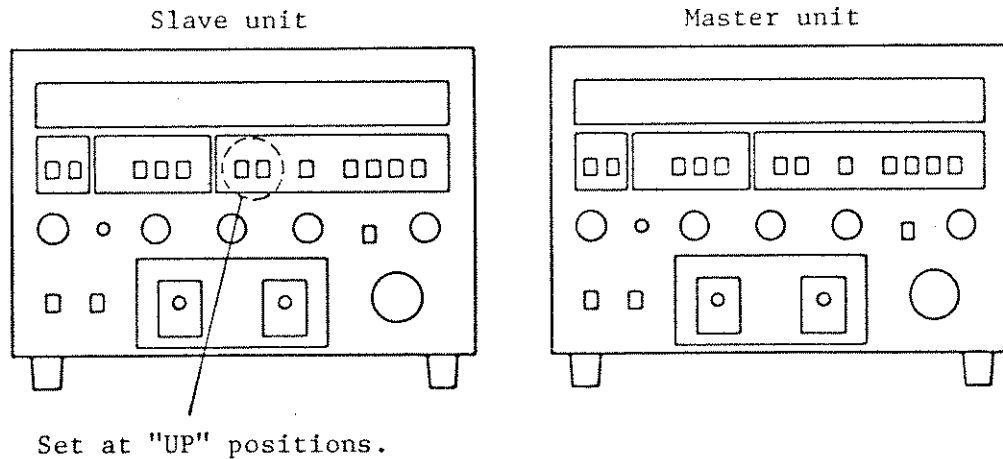

Figure 2-15-2
2. Set both the C.C RANGE push buttons for each of the slave units, 30 A and 3 A, at "UP" position, as shown in Fig. 2-15-2.